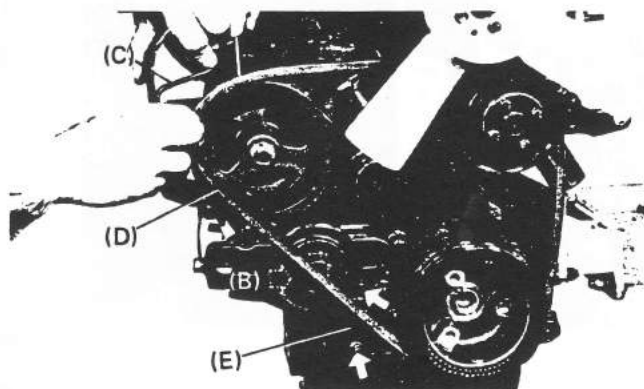

Fig. 33
- Loosen the adjusting bolt and move the idler pulley (B) in the direction of the arrow shown in Fig. 33.